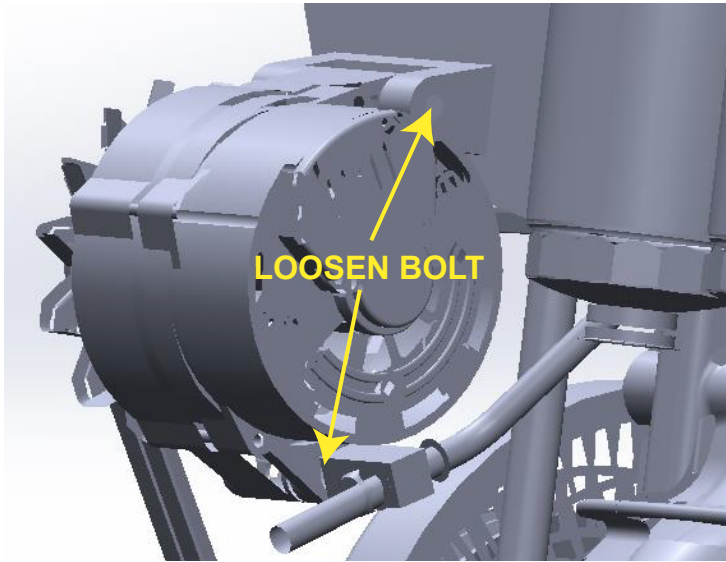

FIGURE 30 - DIESEL ENGINE DRIVE BELT
- Loosen the bolts that hold the alternator in position. The alternator has a slotted bracket and tension nuts that will release the tension on the drive belt. See FIGURE 30.
Rotate the drive belt tensioner in the counter-clockwise direction and re-install the drive belt. Make a visual inspection that the drive belt centerline is in alignment with the other pulleys. See FIGURE 30.